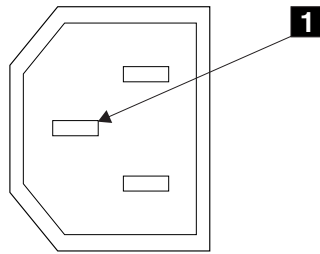

Figure 4. Ground pin
6. Check for continuity between the frame of the SAN Volume Controller and the ground pin (**1** in Figure 4 on page xxix) of each main power connector.